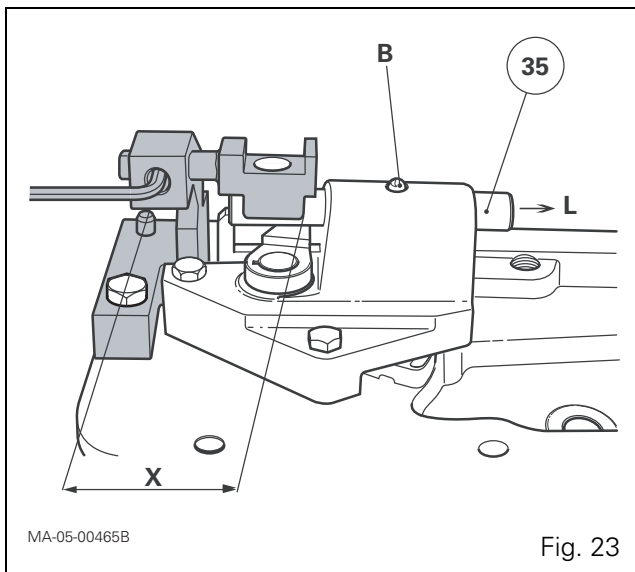
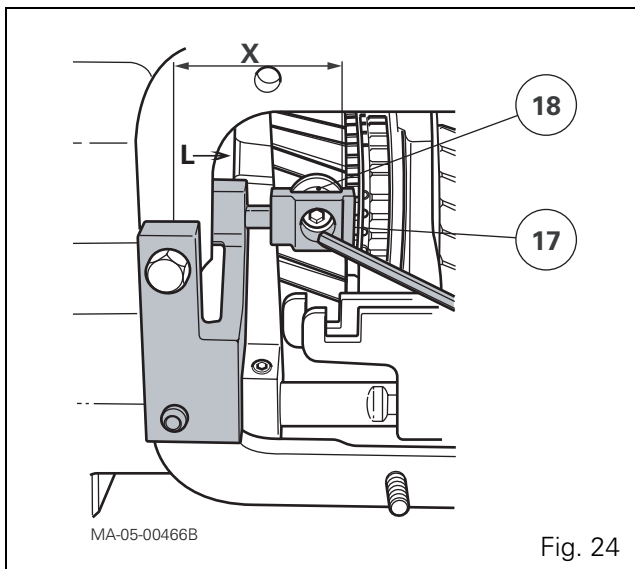
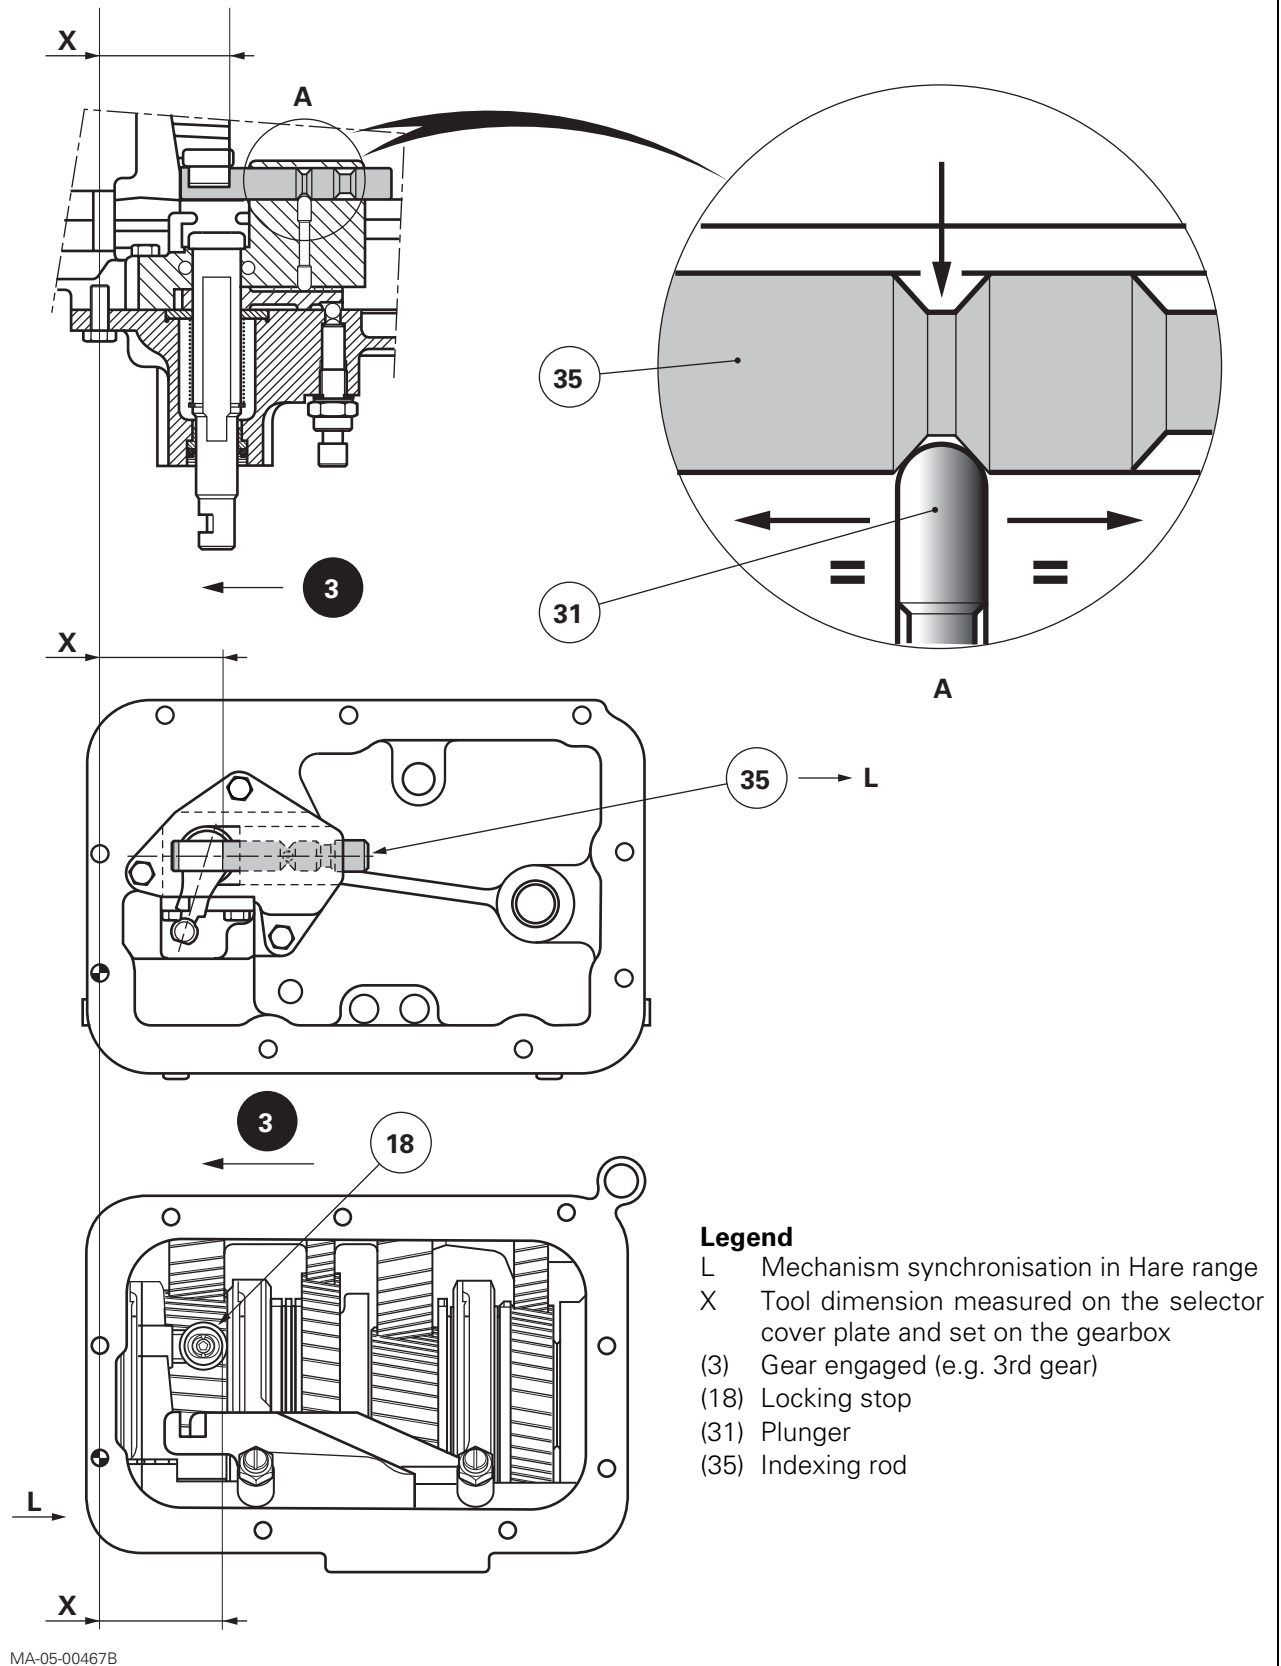

Fig. 23
Fig. 24
Fig. 25
On the cover plate (Fig. 25)
78. Place the indexing rod (35) in the high range position (Hare).
80. Fit the tool on the selector cover plate (Fig. 23).
81. It is **essential** to equally distribute the clearance between the indexing rod and the plunger (31) (Fig. 25, detail A).
82. Using the tool, measure dimension X according to Fig. 23 and Fig. 25.
On the gearbox (Fig. 25)
84. Lightly smear the mating face of the locking stop (18) on the fork with Loctite 648 or equivalent. Apply manual pressure on the fork towards the Hare range.
85. Adjust the locking stop (18) (Fig. 24 - Fig. 25) by placing it in contact with the tool.
86. Lightly smear the thread of the screw (17) with Loctite 242 or equivalent. Tighten to a torque of 40-50 Nm.